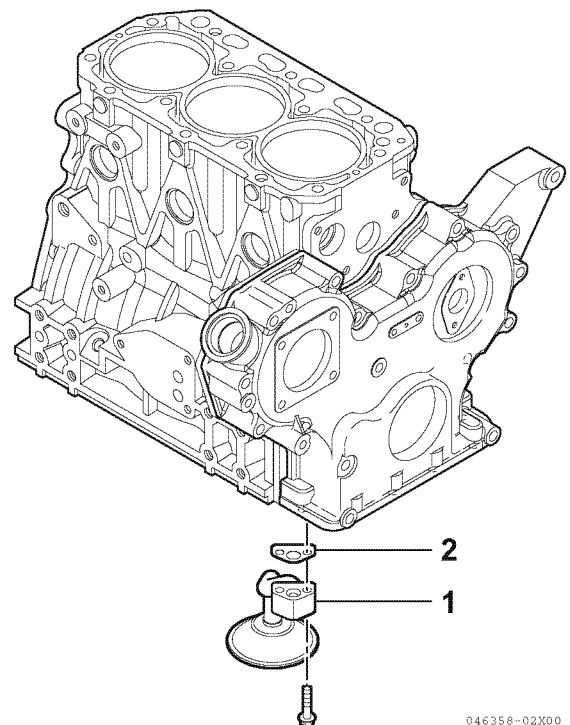

Figure 6-99
1. Reinstall the oil pickup tube (1, **Figure 6-99**) and a new gasket (2, **Figure 6-99**).